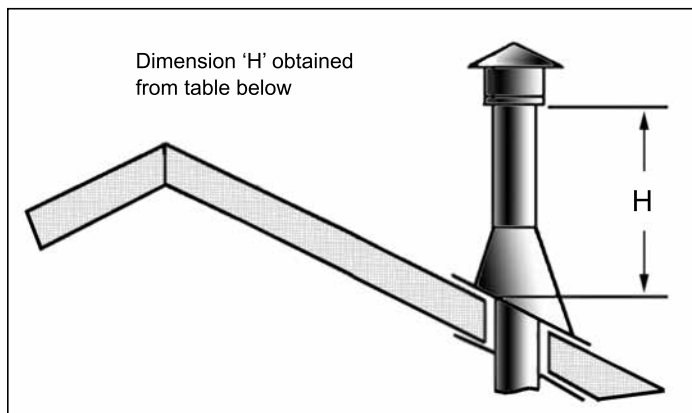

Figure 38: Height of Vertical Termination; Reference Table 7.
- STEP 6.** Once the pipe sections have been joined, and run up through the hole in the roof, slip an elbow strap over the exposed sections, bend the support straps outwards, and push the elbow strap down to the roof level, as shown in Figure 38. Tighten the clamp around the pipe section. Use a level to make sure the pipe is truly vertical. With roofing nails, secure the support straps to the roof. Seal the nails holes heads with non-hardening mastic. Trim the excess length of the support straps that extend out beyond the edge of the flashing.
- STEP 8.** Continue to add pipe sections until the height of the vent cap meets the minimum code requirements. Refer to Figure 38 and Table 7. Note that for steep roof pitches, the vent height must be increased. In high wind conditions, nearby trees, adjoining roof lines, steep pitched roofs, and other similar factors can result in poor draft, or down drafting. In these cases, increasing the vent height may solve the problem.
- STEP 9.** Slip the storm collar over the pipe, and push it down to the top of the roof flashing as shown in Figure 38. Use the non-hardening sealant around the joint between the pipe and the storm collar.